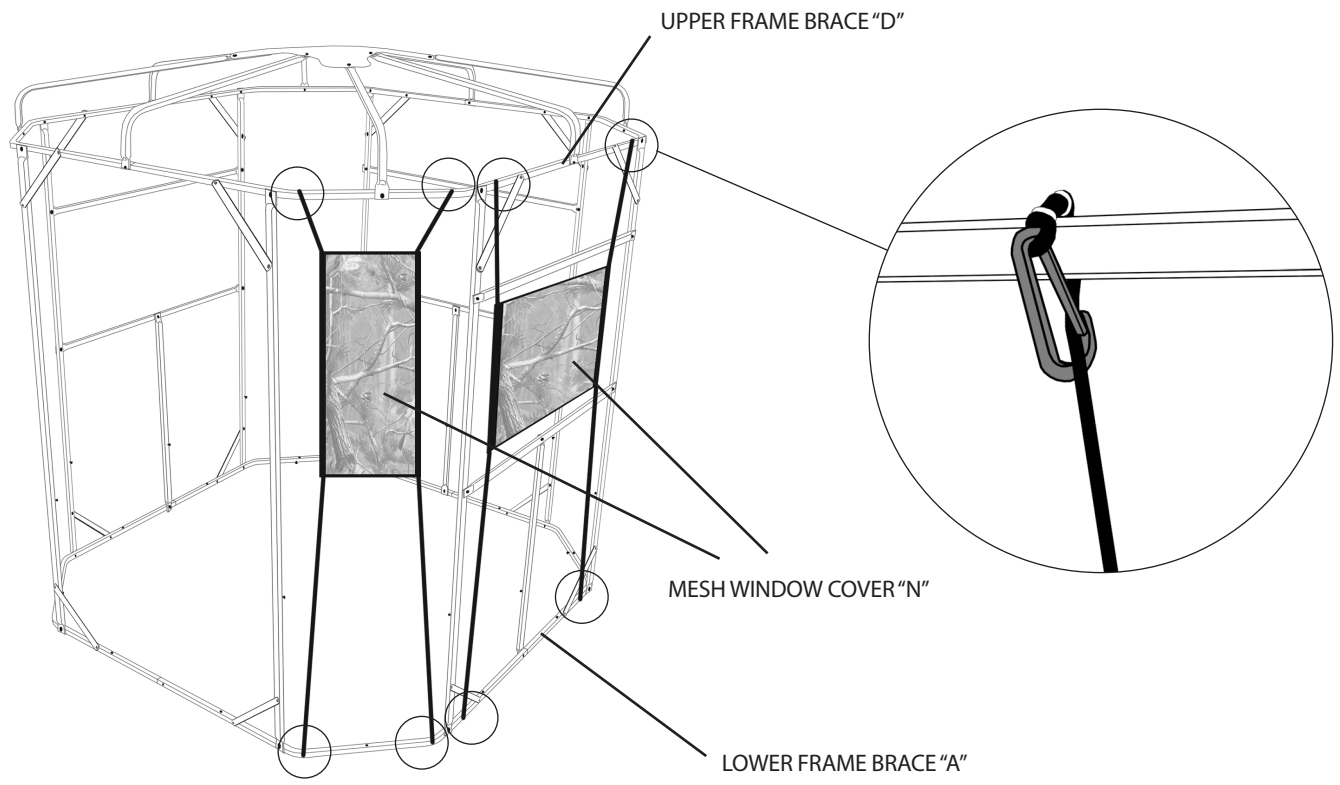

Figure 26.1
STEP 19: Locate the (7) WINDOW COVERS "N". Starting at the top, attach each clip to the UPPER FRAME BRACE "D", then repeat the process for the bottom clips, attaching to the LOWER FRAME BRACE "A", as illustrated in Figure 26.1.